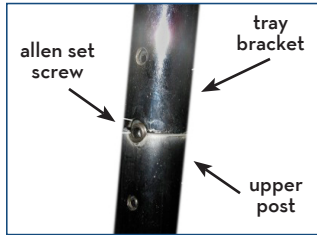

figure 10
10. Put the tray bracket onto the upper post, align the half circle cut out with the allen set screw. (figure 10)